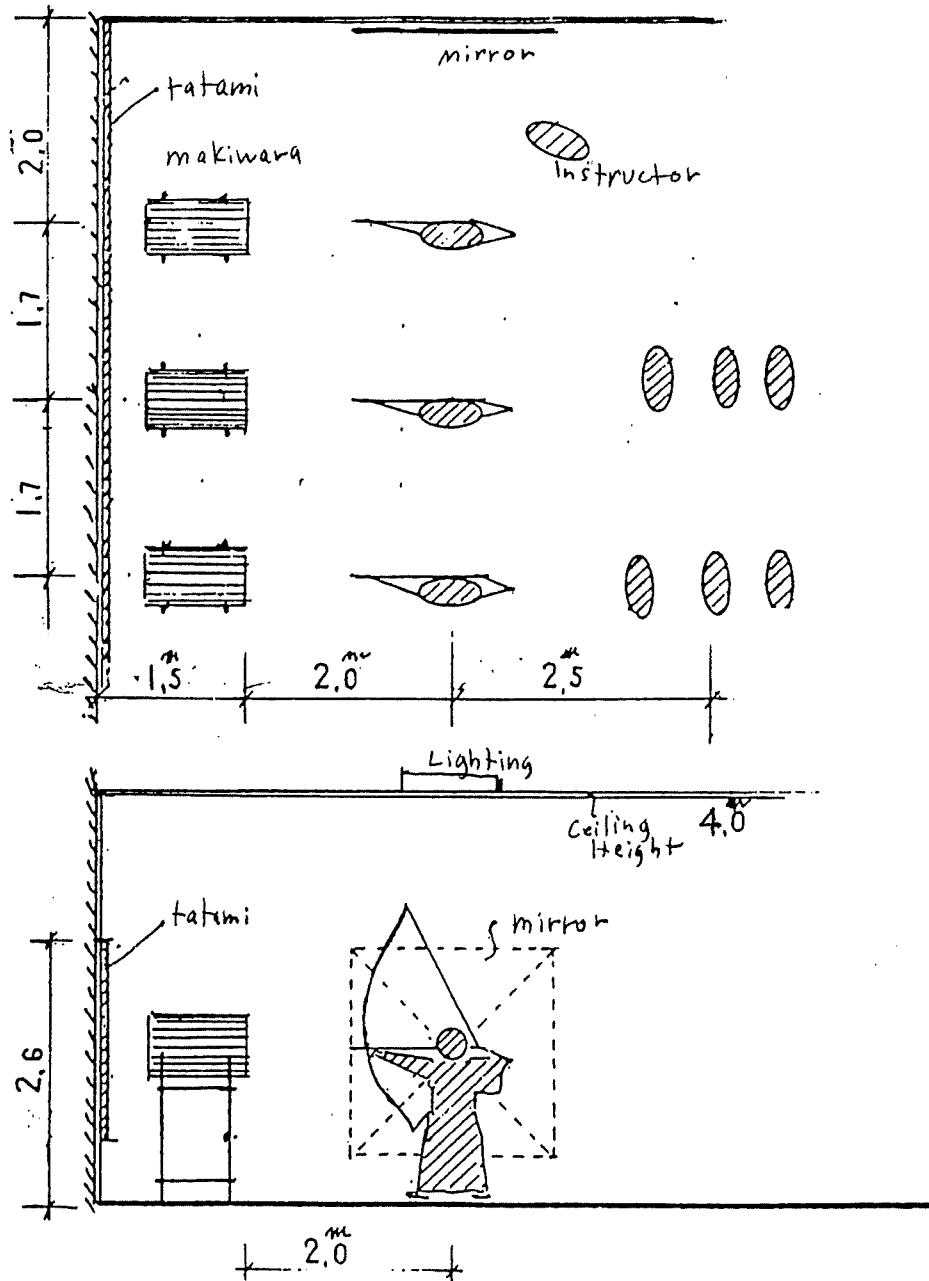

Figure 9 Makiwara Practice Area
2. The width of the makiwara area should be calculated based on a distance between the makiwara of at least 1.5 meters, with the distance in front of the first makiwara being at least 1.8 meters. The depth of the makiwara area should be at least 6 meters. See Figure 9.